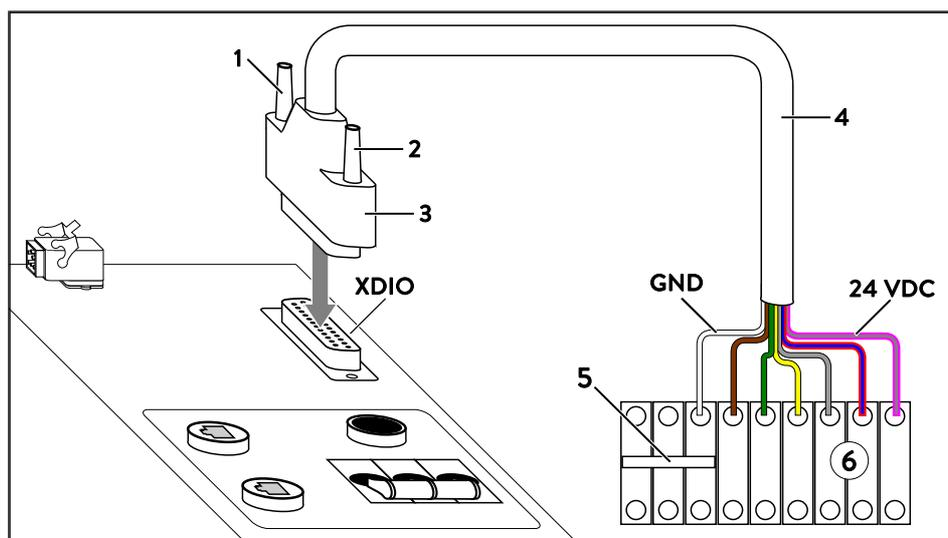

Figure 40: Connecting the signal line for digital outputs
► Connect the signal line as shown in Figure 40.